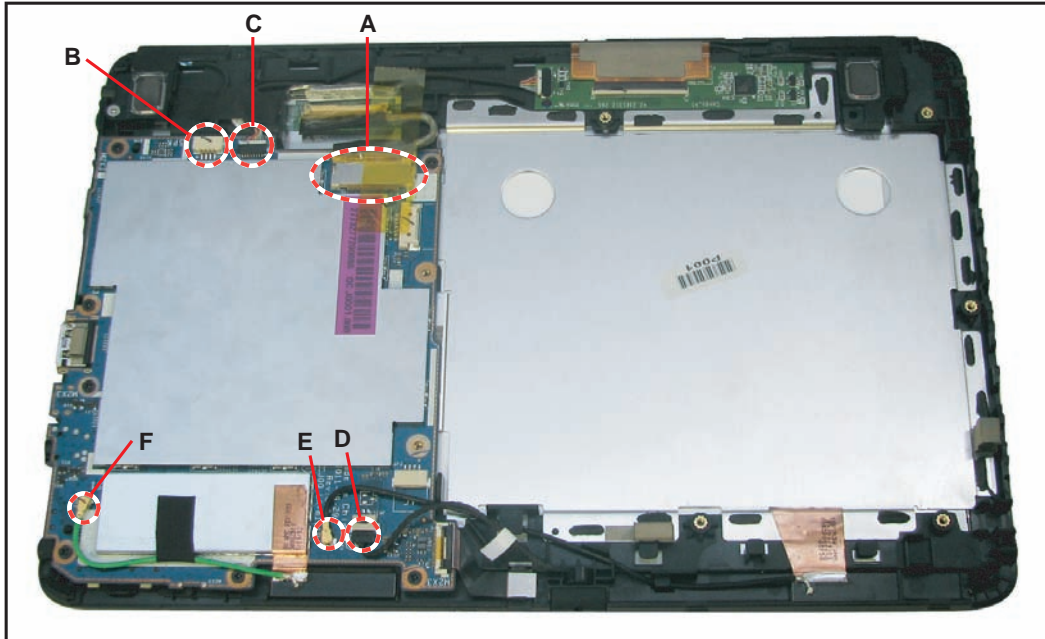

Figure 3:79. Disconnecting the Cables from the Mainboard
2. Disconnect the GPS antenna cable (F). (Figure 3:79, page 3-50)